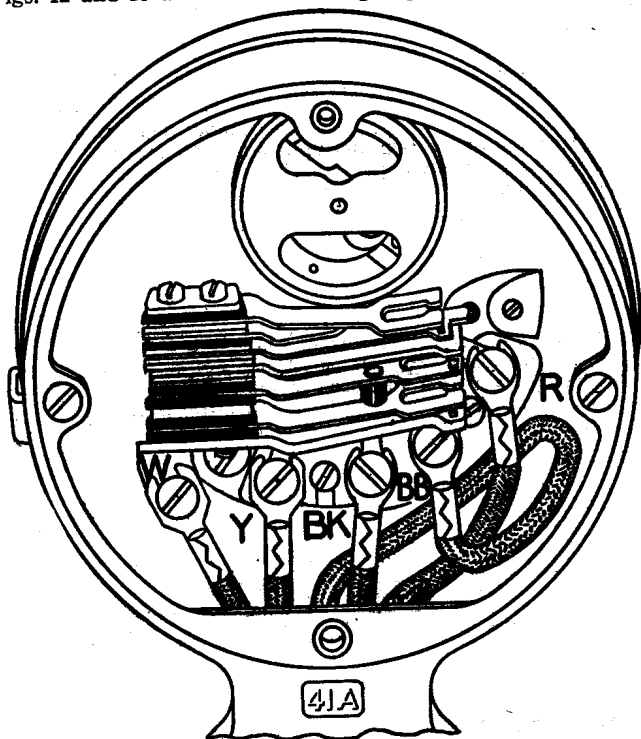
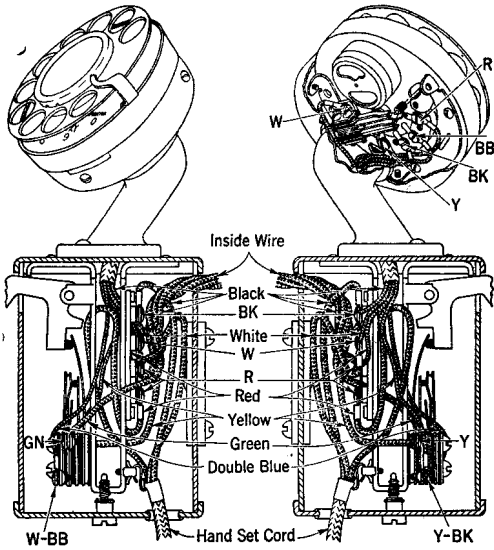

Fig. 12—Dial Cording—4- and 5-Type Twin Contact Dials
Fig. 6—201B, 201C, 201D Type Hand Telephone Sets.
1.05 The cording of sets having single contact 4- and 5-type dials should be in accordance with Figs. 6 to 11 inclusive. The same information, other than dial cording, applies to sets with twin contact 4- and 5-type dials as well as 6-type dials. The typical dial cording for the latter types is shown in Figs. 12 and 13. The same general principles of cording should be followed in the case of sets having a different number of dial conductors.
Below Fig. 6 on Page 4 of the Section add the following:
Figs. 12 and 13 are added following Fig. 11.